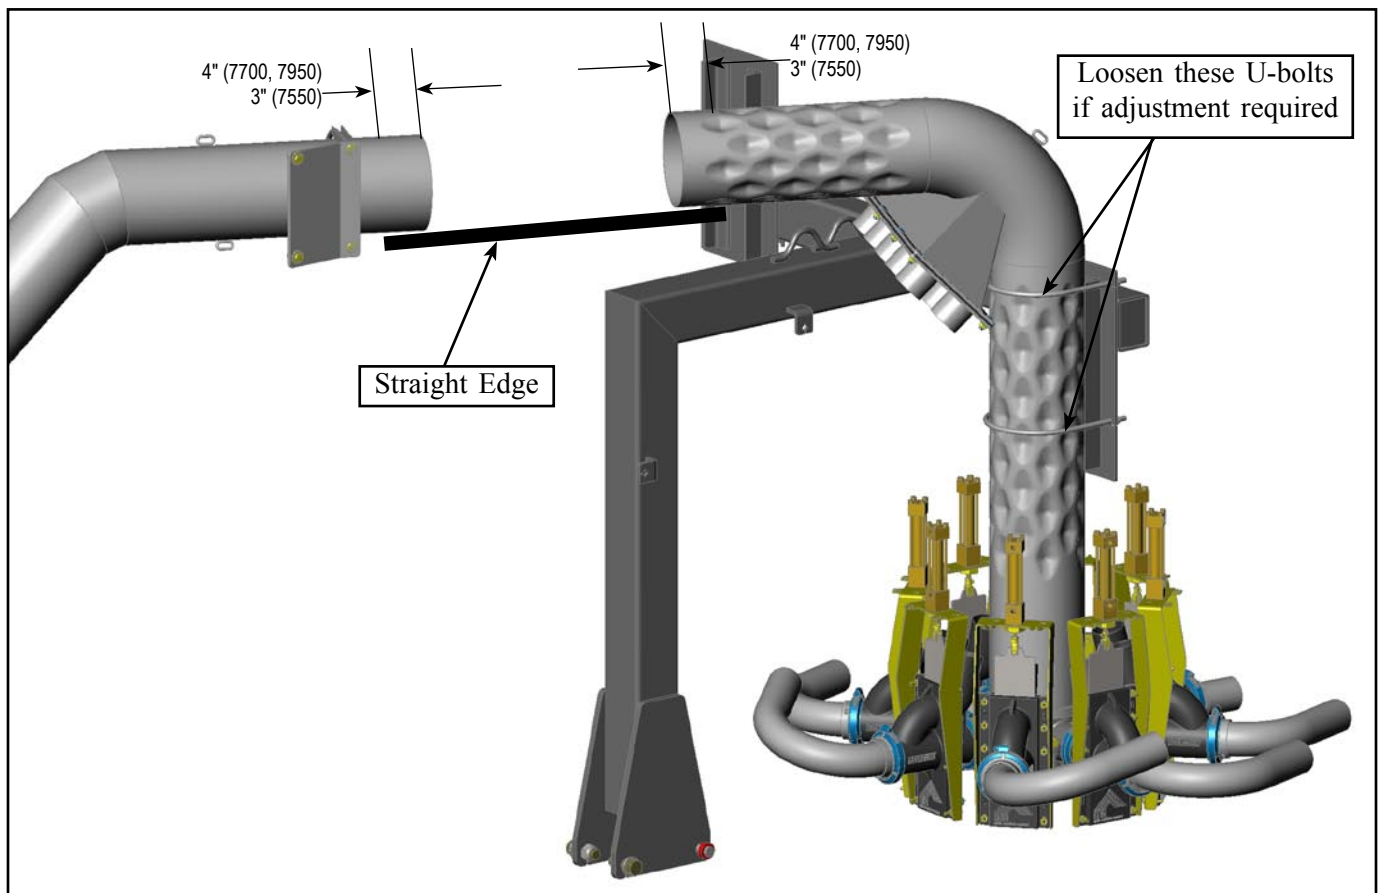

Figure 6
- Check alignment of primary elbows to S-pipe using straight edge. Adjust height and angle by loosening u-bolts holding primary elbow to stand. Refer to *Figure 6*.